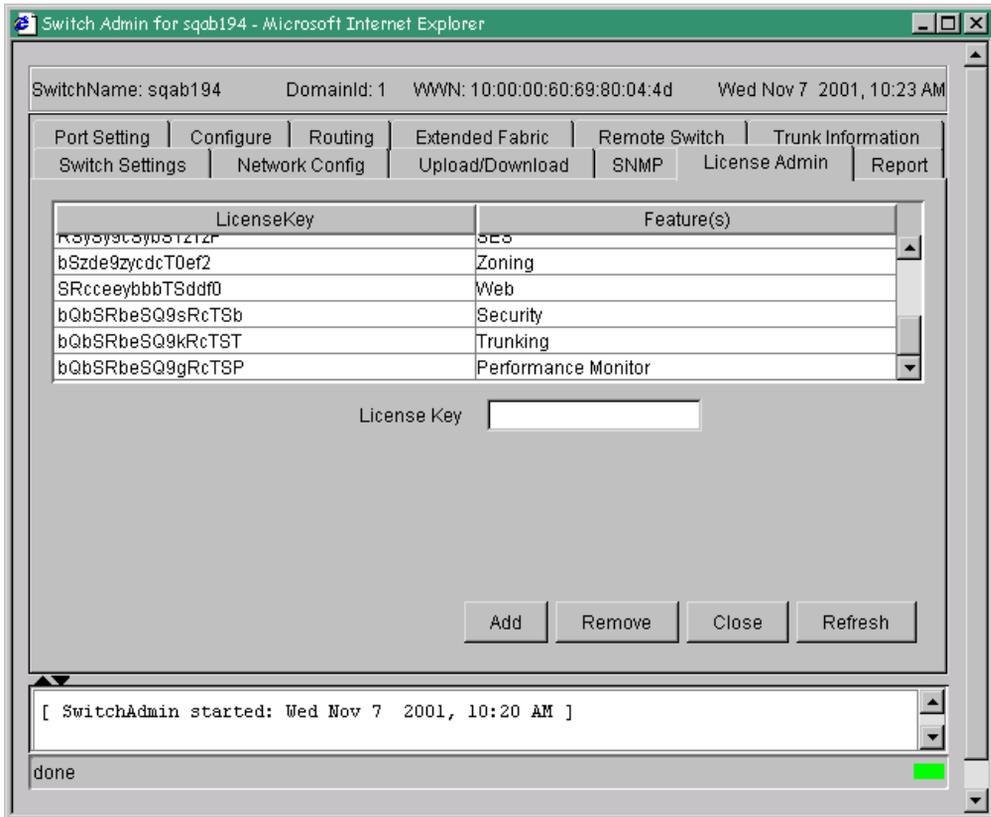

Figure 2-3: License Admin tab
The Administration View displays. (See Figure 2-3 on page 2-4.)
4. Select the **License Admin** tab. Figure 2-3 shows a typical **License Admin** tab screen.